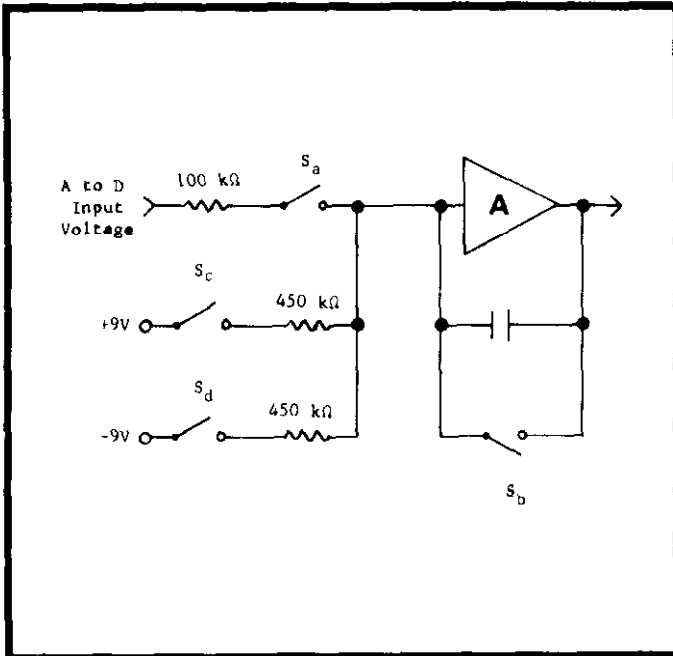

FIGURE 17. Integrator Block Diagram.
1. Zero Period. During this period the integrator amplifier is zeroed by the closure of switch S_b. Switches S_a, S_c, and S_d are open to prevent integrator charging (refer to Figure 17).
1. Integrator Circuit. (Refer to Figure 17 for identification of switches S_a , S_b , S_c , and S_d). The operation of the Integrator is controlled by the positions of switches S_a , S_b , S_c , and S_d . Switch S_a is transistor Q605. Switch S_b is transistor Q606. Transistors Q601 through Q604 are control circuits arranged to turn off the proper FET switches depending on the signals at pins 11 and 12. The integrator amplifier consists of transistors Q607 and Q608 and integrated circuit QA601. The feedback capacitor is C603. Switches S_c and S_d (located on the Oscillator Board, PC-217) control the current for 9-volt zener diodes D601 and D602. Resistors R602